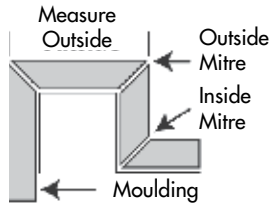

Figure 1.1
- Also identify the angle of each corner. (Figure 1.1)